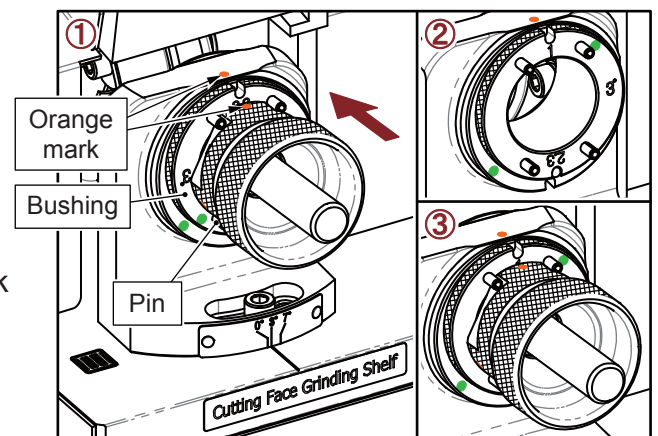

Fig. 5-20
3) 3 Flute Cutting Face Grinding (III) (Fig. 5-20)